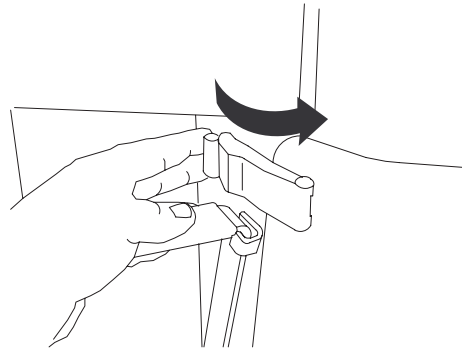

Figure 34
1. Pull out and forward on the latches on both sides of the traction unit (Fig. 34).
2. Swing the rear access cover down and pull it away from the traction unit (Fig. 34).
2. Place the latches over the locking brackets on each side and secure them (Fig. 34).